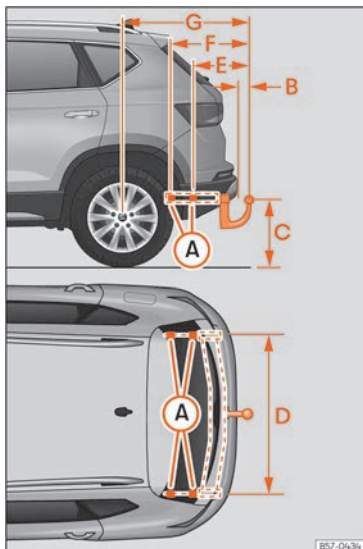

Fig. 183 Limits and attachment points for retrofitting a towing bracket.
The distance between the centre of the ball head and the road >>> Fig. 183 (C) must never be less than that indicated. This also applies when the vehicle is fully loaded, including the technically permissible maximum vertical load on the coupling device.